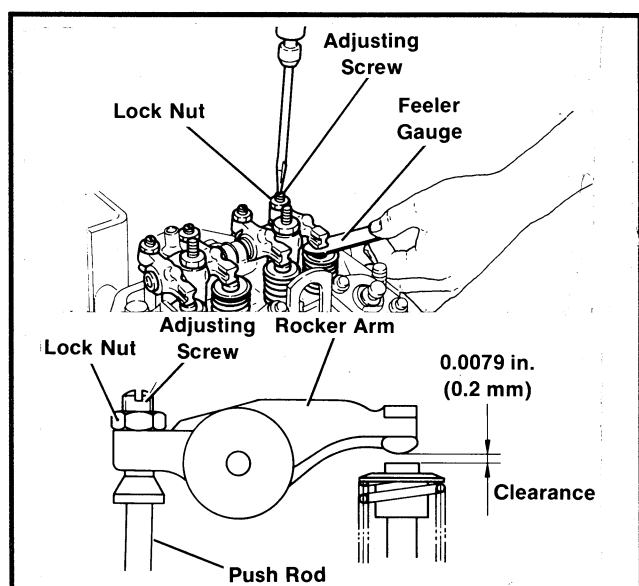

Figure 1-14. Valve Adjustment
3. Insert feeler gauge between rocker arm and exhaust valve. If necessary, loosen lock nut and move adjusting screw so that very slight drag is felt on the feeler gauge as it is withdrawn. Tighten lock nut on adjusting screw. See Figure 1-14. Repeat step for intake valve.